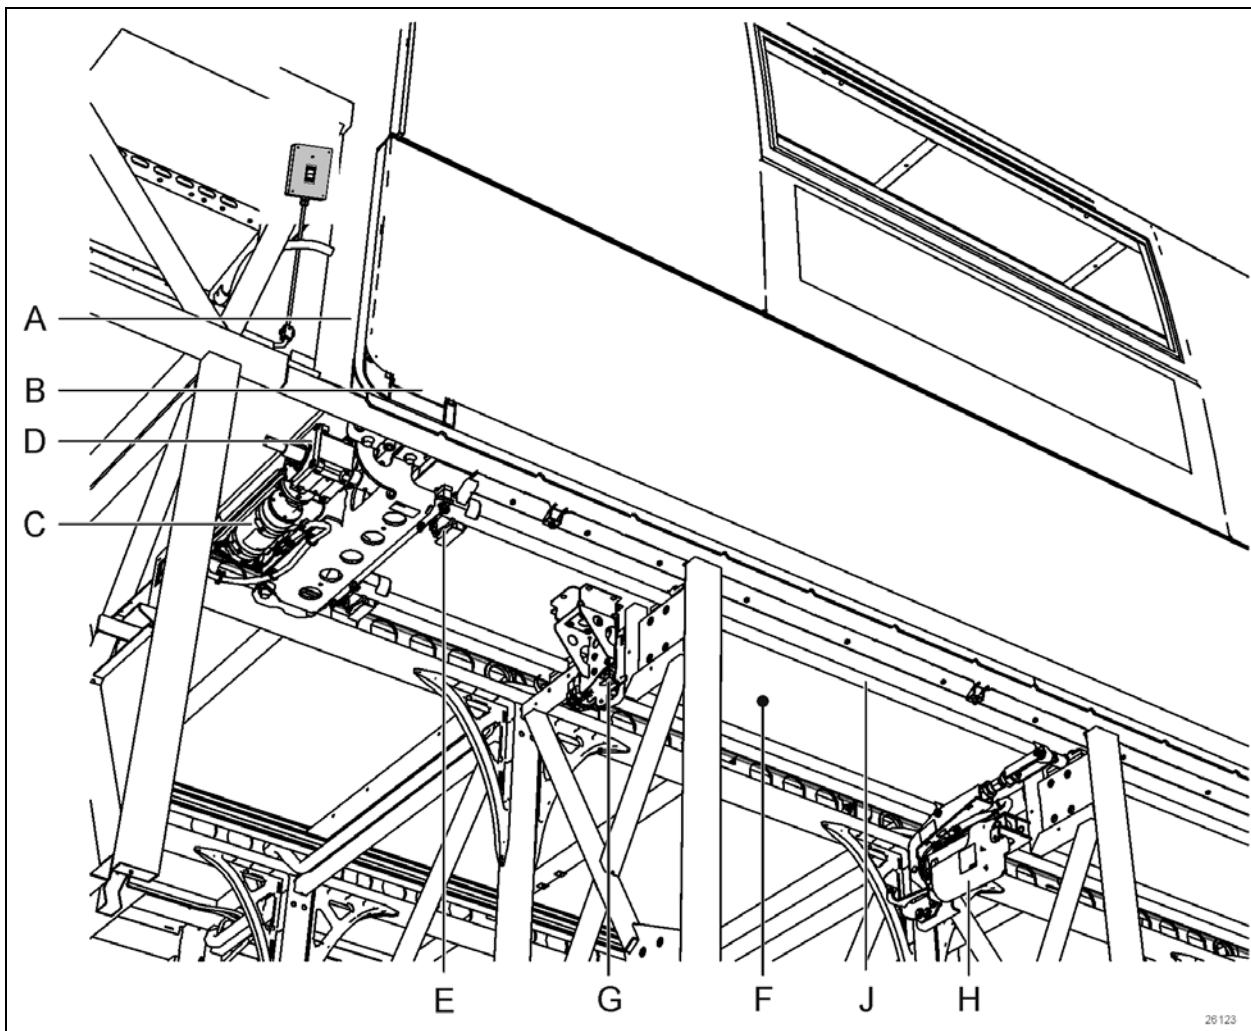
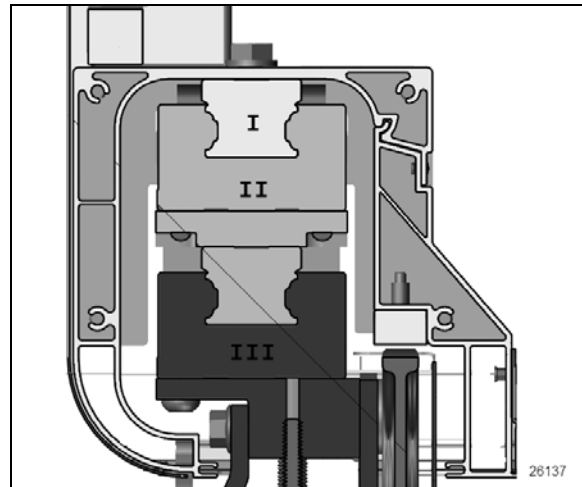

FIGURE 45: FLUSH FLOOR SLIDE-OUT MECHANISM OVERVIEW
FIGURE 50 LINEAR BEARINGS
Refer to images Figure 45 to Figure 50 above.
Extension bearings and rail assemblies are stacked in pairs (Figure 50). The slide-out room structure is attached to the top rail (I). The top bearing is attached to the bottom rail (II). The bottom bearing is attached to the vehicle structure (III).